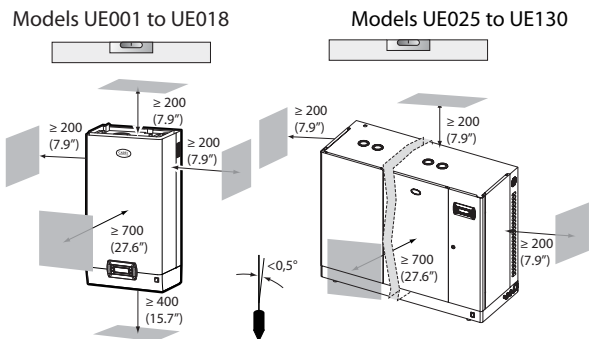

Fig. 1.d
- make sure the humidifier is level, allowing the minimum clearances (see Fig. 1.d) for maintenance operations.
Fit the humidifier on the wall using the support bracket and the screw kit supplied (for the dimensions see Fig. 1.d).